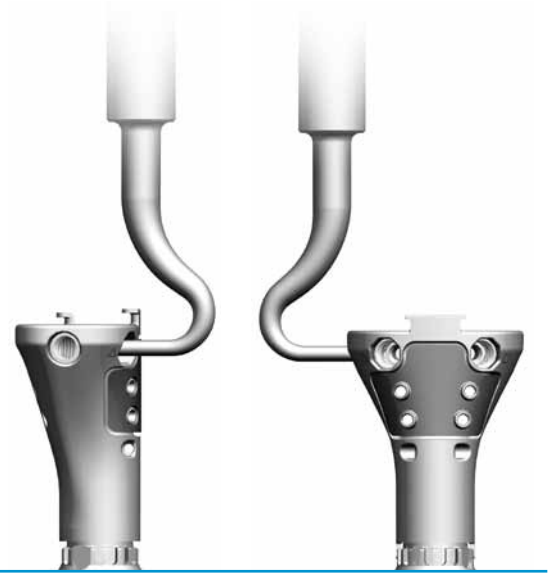

Fig. 39
- The Femoral Stem Extractor can also be used if removal of the entire femoral or tibial construct is necessary (Fig. 39).
- The Femoral Stem Extractor can be used in the tissue attachment bolt hole or set screw hole (Fig. 39).